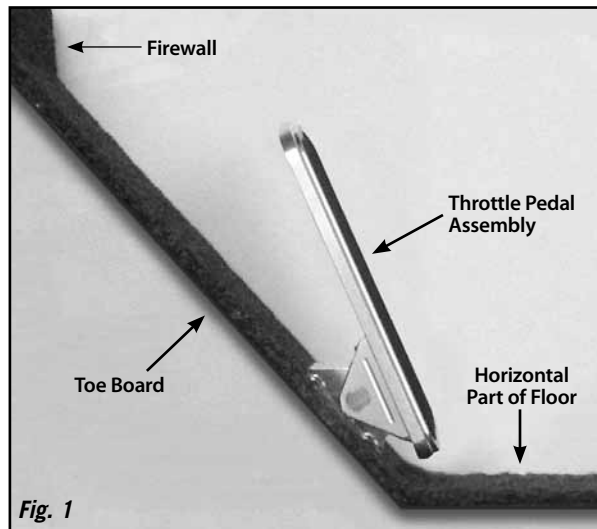
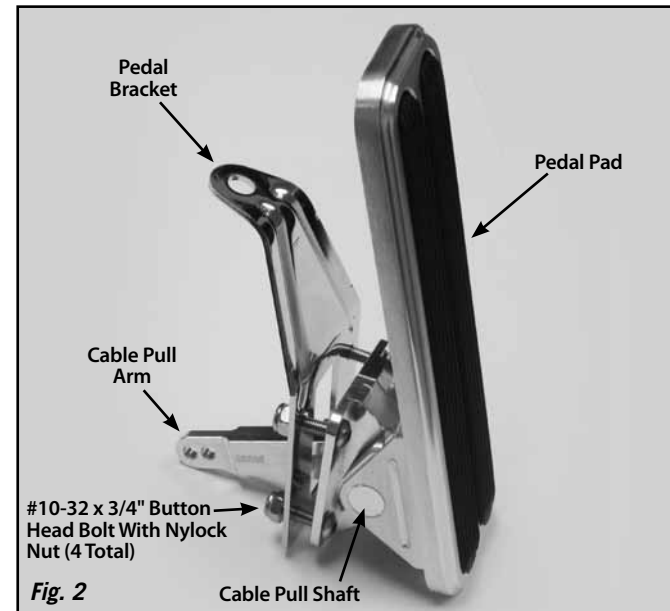

Fig. 1
Fig. 2
Step 1: Determine your desired mounting location. This throttle pedal is designed to be mounted on the angled toe board just below the vertical firewall, **NOT** on the horizontal part of the floor. **Fig. 1** The bottom edge of the pedal pad should be parallel to the horizontal part of the floor. Make sure that the location of the pedal bracket, throttle cable, and cable pull arm will not interfere with any other components such as brake or fuel lines, clutch linkage, wiring, or exhaust. **Fig. 2**